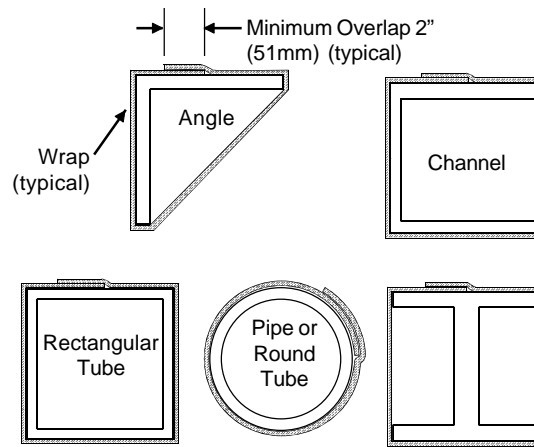

Figure 3-17. Wrap on Various Shapes
1. See Figure 3-17. Using a flexible tape measure, measure and record the wrap width required, allowing for a minimum 2" (51mm) overlap.
2. See Figures 3-17 and 3-18. Lay the wrap on a flat surface. Mark and cut it at the distance from Step 1.
5. Position the wrap, starting at the bottom of the brace. Wrap it around the brace, overlapping the ends as shown in Figure 3-17. Fasten the wrap to the brace with four tie wraps.